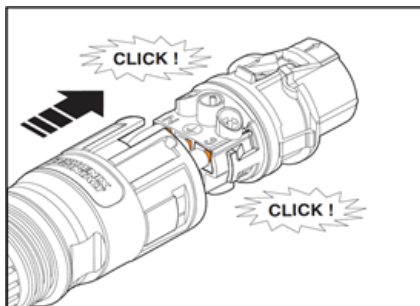

Fig. 17: Interconnection
- Push the contact carrier into the housing until it audibly engages (Fig. 17).